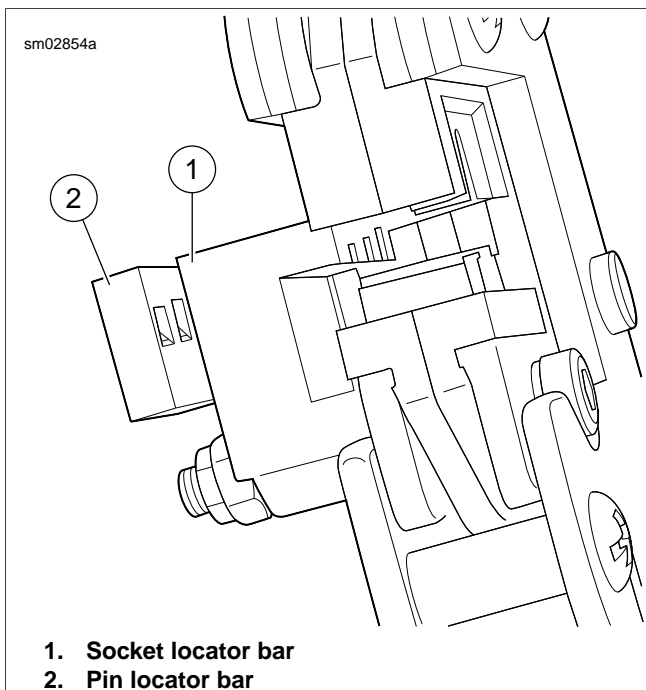

Figure A-52. Terminal Locator Bars
- a. **Socket Terminal:** See Figure A-52. A socket terminal stops against the back face of the socket locator bar (1).